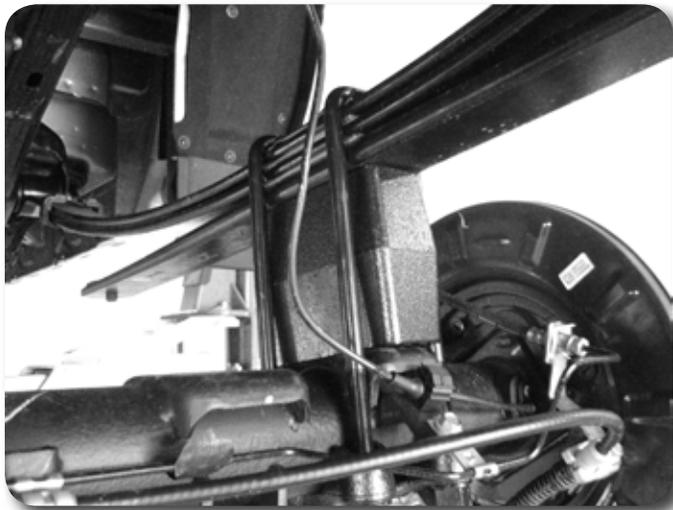

Figure 44
10. Using the support jack, raise the axle so that the axle, spring and block are all touching. Install the new provided u-bolts, nuts and washers allow with the factory u-bolt plate **Figure 44**. Snug u-bolts but do not tighten.